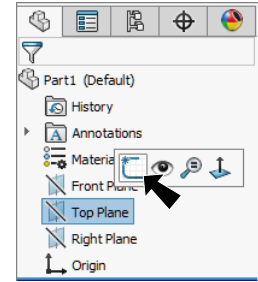
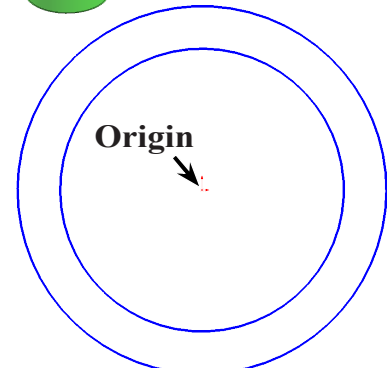
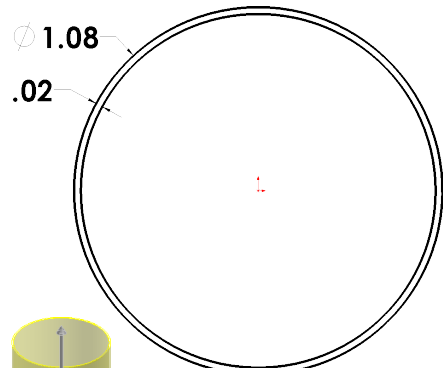

Fig. 1
Fig. 2
Fig. 3
Step 2. Click **Top Plane**  in the Feature Manager and click **Sketch**  on the context toolbar, **Fig. 1**.
Step 3. Click **Circle**  (S) on the Sketch toolbar.
Step 4. Sketch **two circles** starting at the Origin , **Fig. 2**.
Step 5. Click **Smart Dimension**  (S) on the Sketch toolbar.
Step 6. Add dimensions, **Fig. 3**.